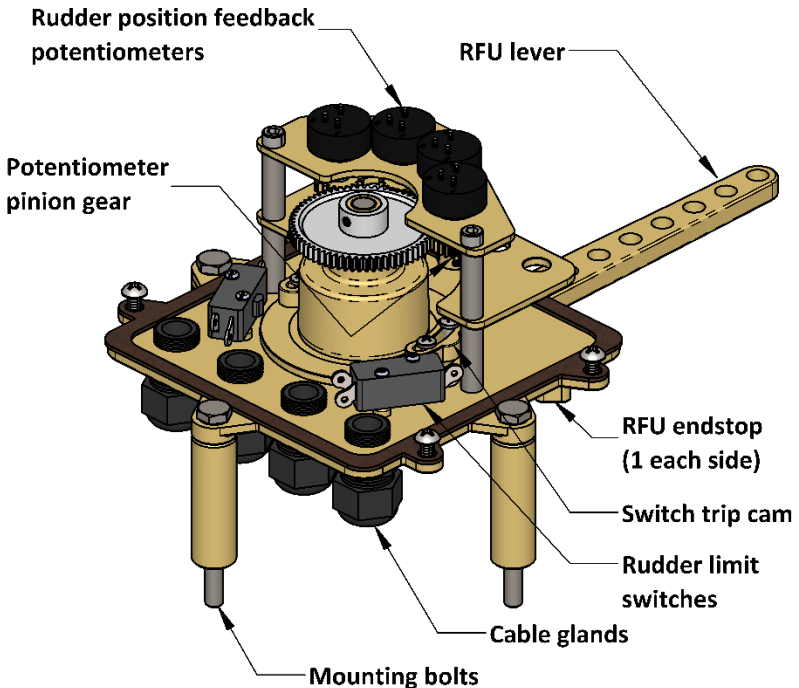

Figure 1: 7174 Overview Diagram
3. Locate the relevant switch trip cam (see Figure 1: 7174 Overview Diagram).
3. Locate the potentiometer in need of centering (see Figure 1: 7174 Overview Diagram).